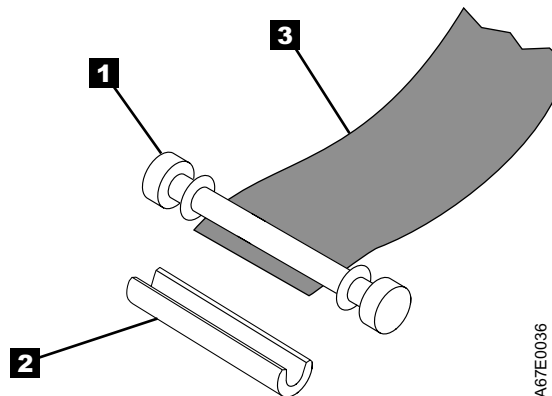

Figure 60. Removing the C-clip from the leader pin. Use your fingers to push the C-clip from the leader pin.
5. On the leader pin (**1** in Figure 60), locate the open side of the C-clip **2** . The C-clip is a small black part that secures the tape **3** to the pin.